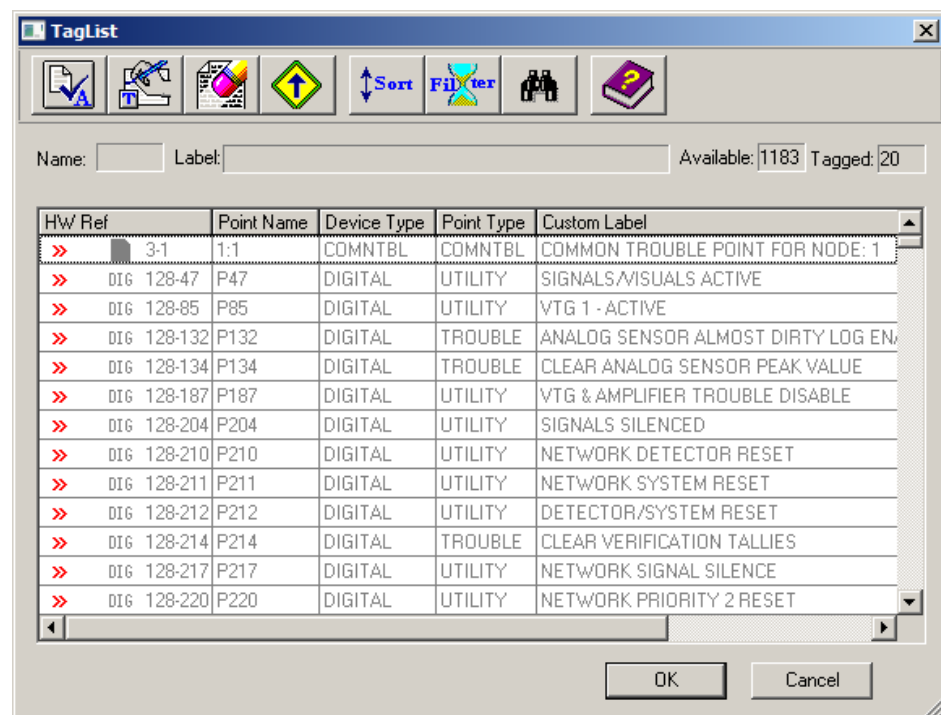

Figure 15-4. Tag List for External Points
2. Click **OK**. The tag list shown in Figure 15-4 appears. This taglist contains all of the points that are currently declared public on the node selected in Step 1 above.